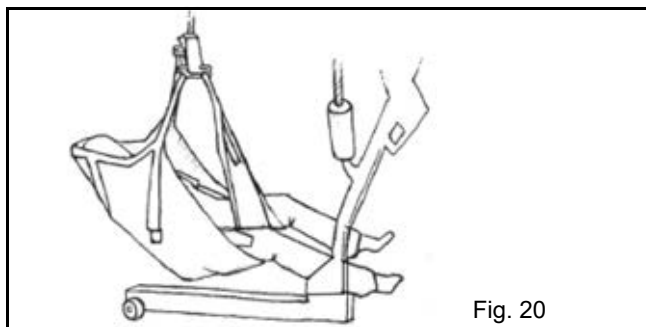

Fig. 20
- 8) The patient can now be lifted. Raise the lift until patient is almost clearing the floor and smooth out any "bunching" under the body to improve comfort (see Fig. 20).